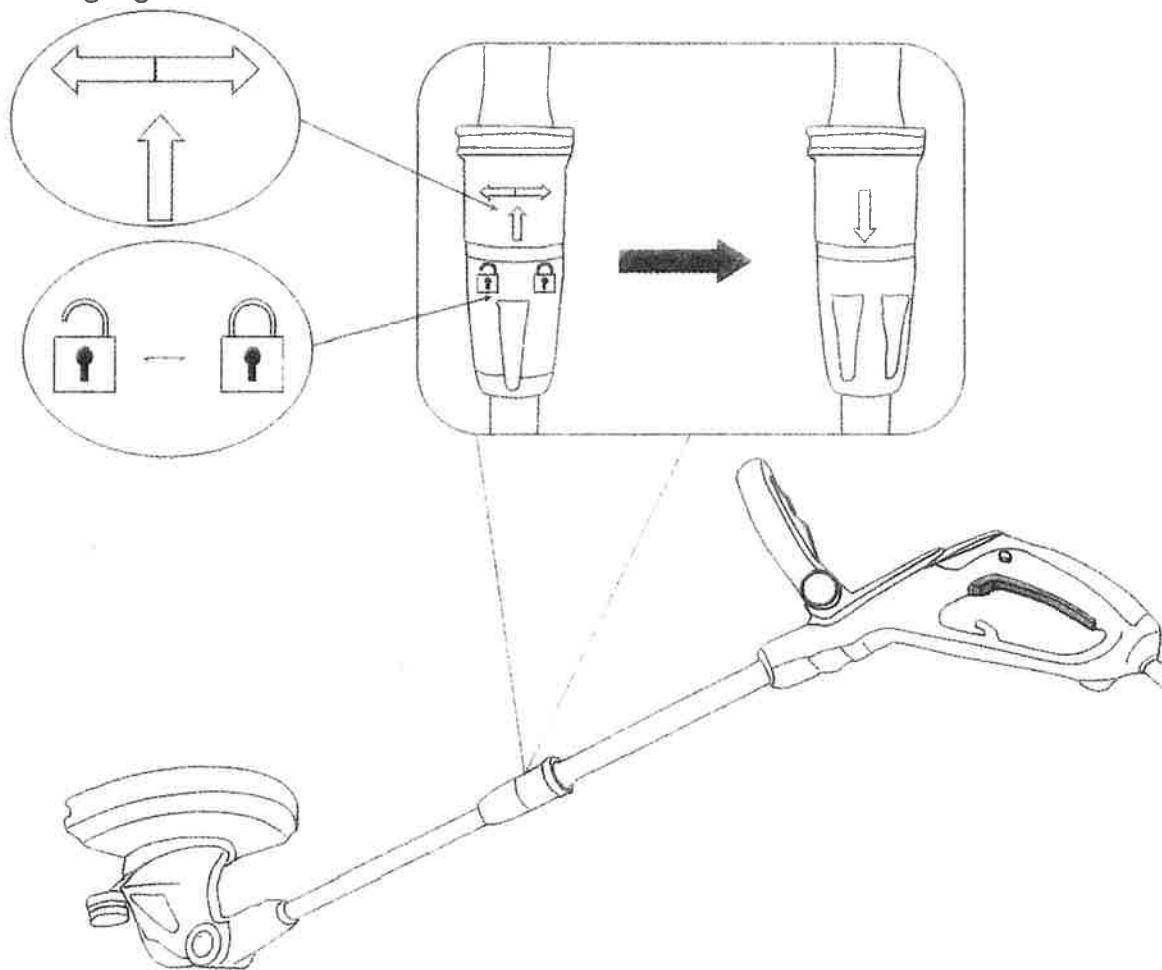

Fig.8
2. Rotating the edging knob (6)) , and then turn the shaft , as you hear the 'click' sound. (Fig.8)
3. Now the trimmer can be used as the edge cutter. (Fig.8)